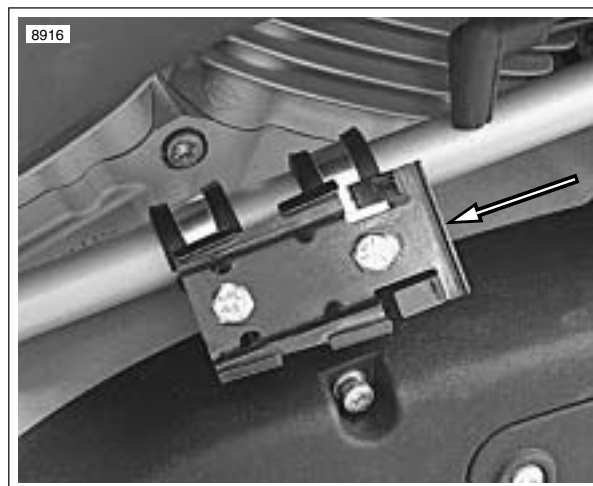

Figure 4-116. Canister Mounting Bracket
1. See Figure 4-116. Slide canister into position on canister mounting plate and push towards front of vehicle.